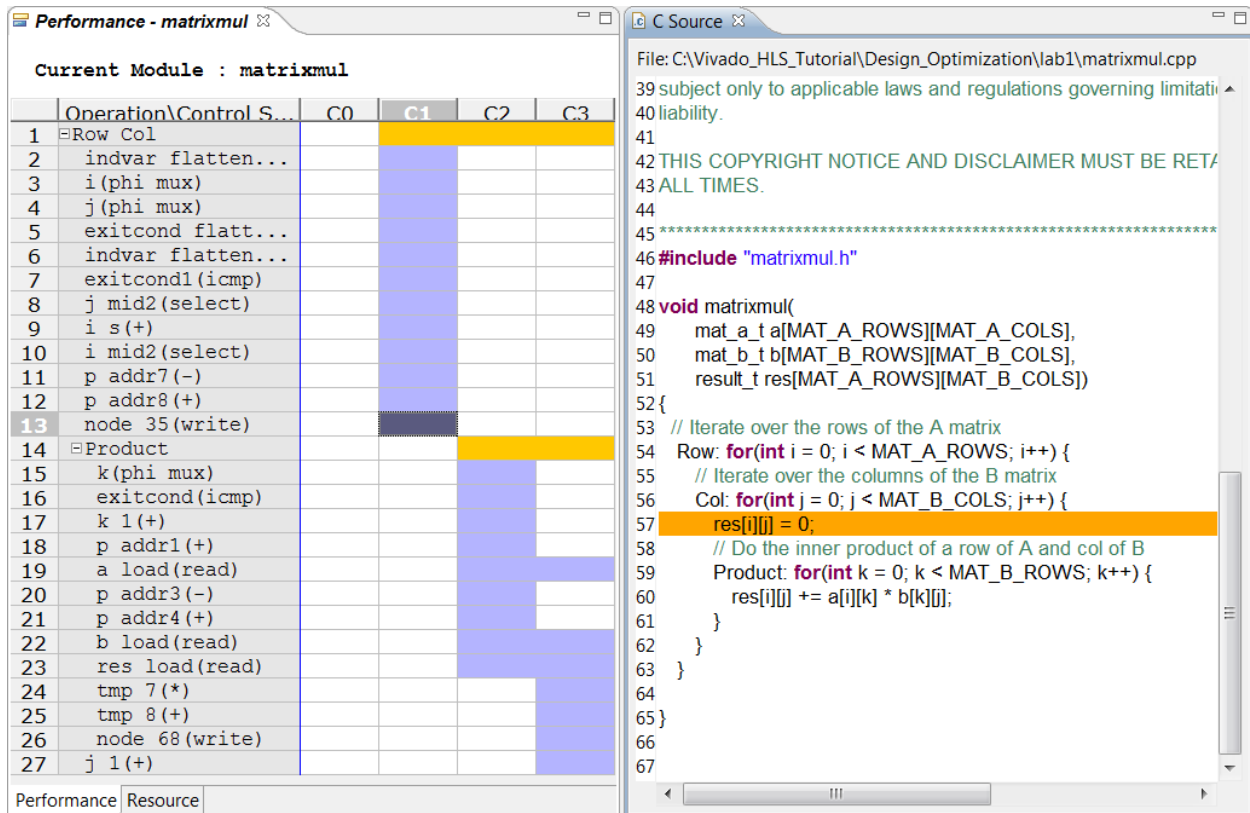

Figure 148: Matrixmul Initial Performance View
9. Right-click and select **Goto Source** to see the view in **Figure 148**.
From Figure 148 you can see line 60 is a read from array `res` (due to the `+=` operator) and a write to array `res`. An array is mapped into a block RAM by default and the details in the Performance View can show why this conflict occurred.